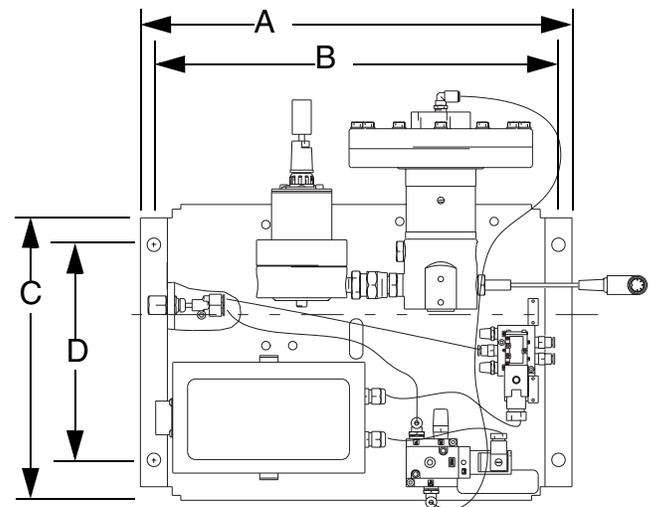

FIG. 8
2. Locate and secure the PrecisionFlo LT fluid metering assembly to the automation unit (or other mounting surface) with appropriate size bolts through the 0.42 in. (10.7 mm) diameter holes in the base plate. See the mounting dimensions in **Table 1 - Measurement, inches (mm)** and FIG. 8.